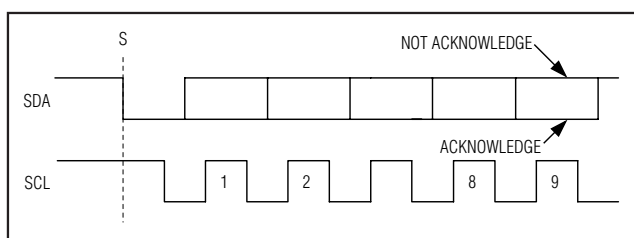

Figure 6. Acknowledge Bits
Successful data transfers are acknowledged with an acknowledge bit (A) or a not-acknowledge bit ($\bar{A}$). Both the master and the MAX11600–MAX11605 (slave) generate acknowledge bits. To generate an acknowledge bit, the receiving device must pull SDA low before the rising edge of the acknowledge-related clock pulse (ninth pulse) and keep it low during the high period of the clock pulse (Figure 6). To generate a not acknowledge bit, the receiver allows SDA to be pulled high before the rising edge of the acknowledge-related clock pulse and leaves it high during the high period of the clock pulse.